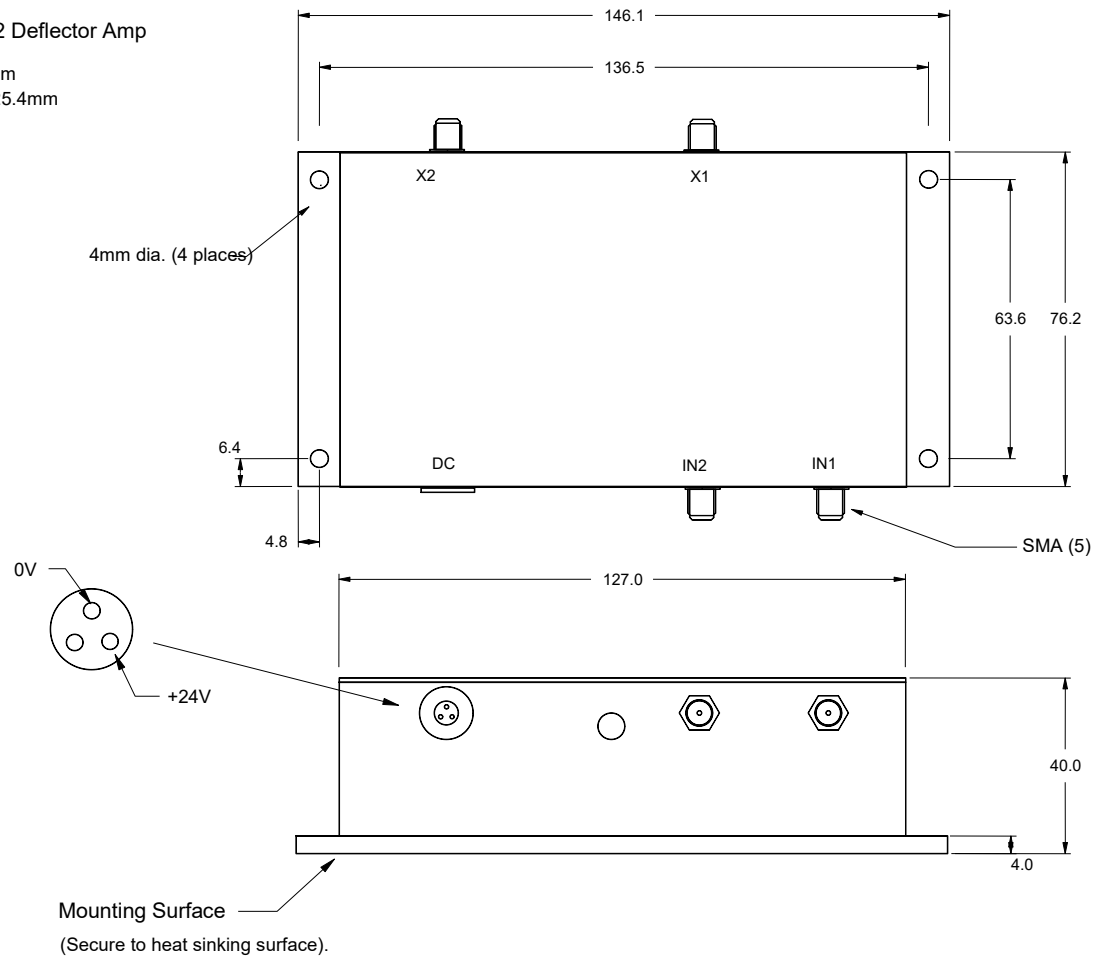

Figure 1, DA104-2 driver
The DA104-2 Modulator/Deflector Driver, figure 1, is a modular, dual independent output RF power amplifier specifically designed to operate with Isomet acousto-optic devices such as the LS110A. The driver accepts two frequency inputs in the order of -6dBm (e.g. from the Isomet iDDS-2 series frequency synthesizer) and provides dual phase delayed RF outputs suitable for beam steered acousto-optic deflectors. A summary of the DA104-2 driver specification is shown in the following table:
- a. Install the D104-2 Driver on a heat sink as shown in Figure 1. Use heat conducting compound between the Driver mounting face and the heat sink.
- b. With no d-c power applied, connect the + 24Vdc line to the 2-pin DC connector as shown in Figure 1. DO NOT APPLY POWER UNTIL THE LOAD IS CONNECTED.